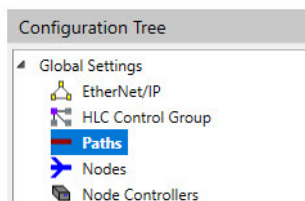

Figure 4-16: Configuration Tree with Paths Selected
1. In the Configuration Tree, select **Paths**, see Figure 4-16.